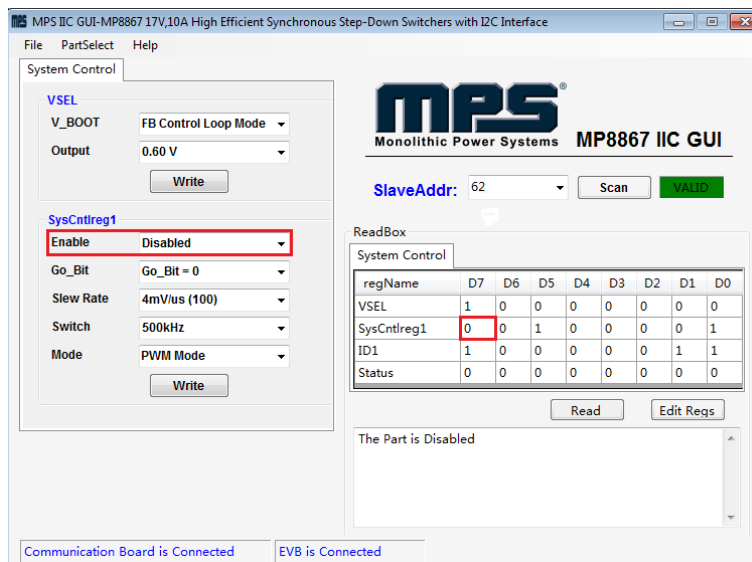

Figure 10: Refer to Datasheet to Translate 0s and 1s
5. Click the “Read All” button to update values. The changed information of the item will appear on the right side (see Figure 10).